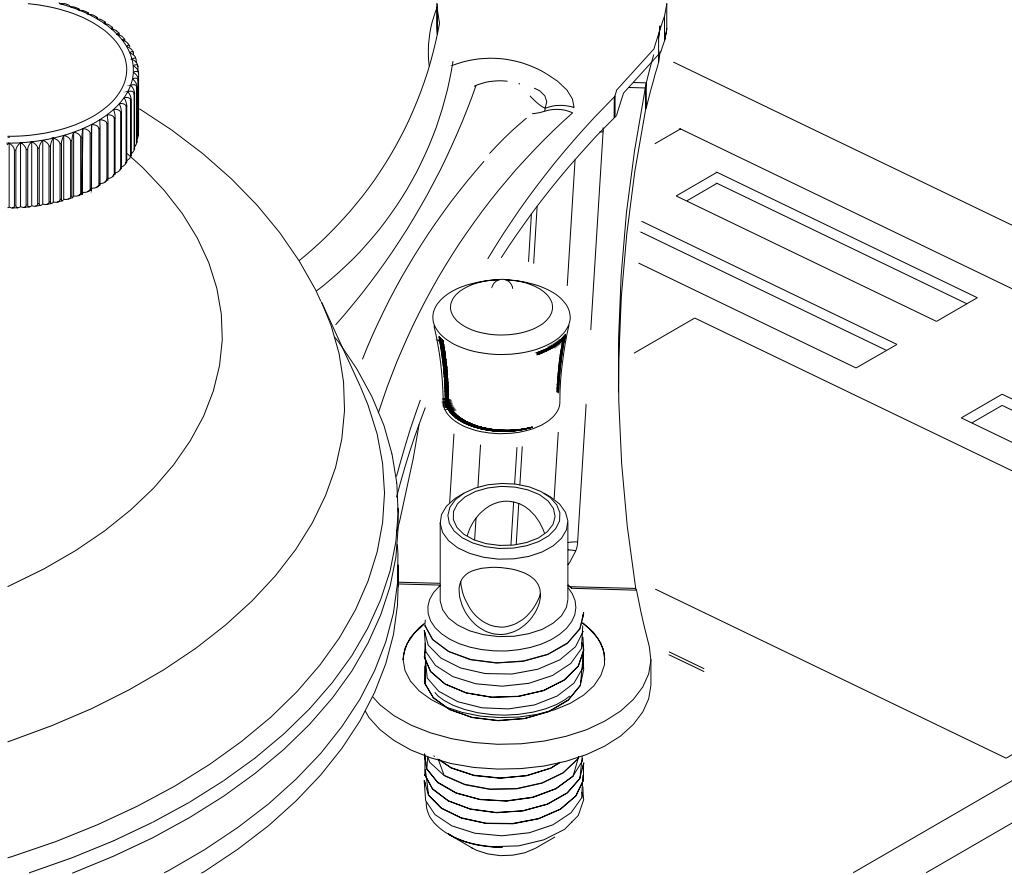

Figure 8. Plastic Cap Installation
1. Once all the final adjustments have been finished, install the plastic caps on the leveling barrels (Figure 8).